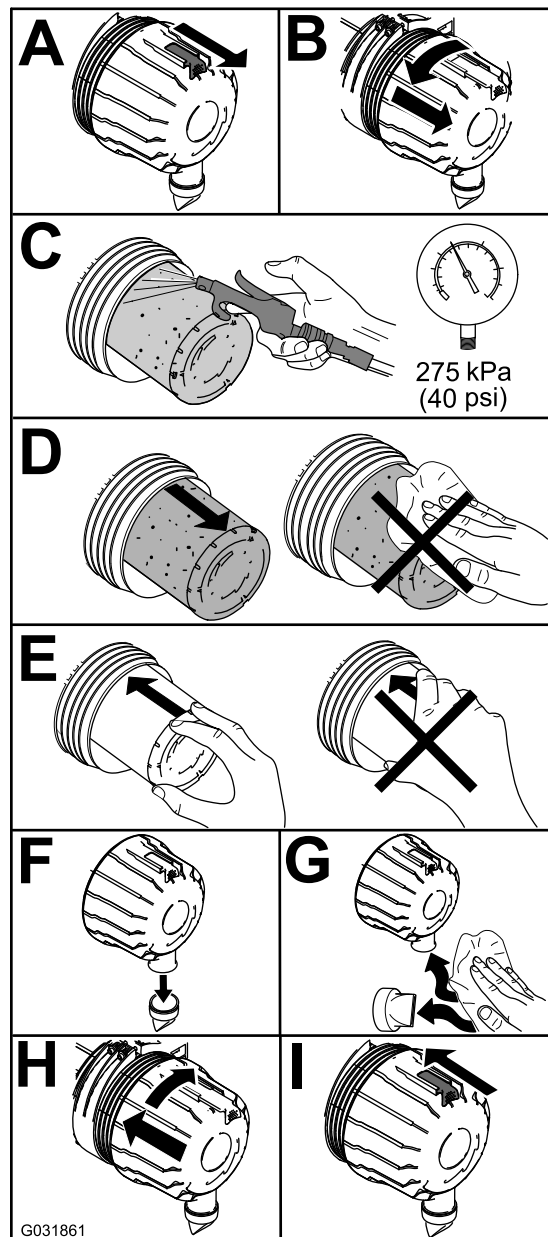

Figure 55
1. Replace the air cleaner (Figure 55).